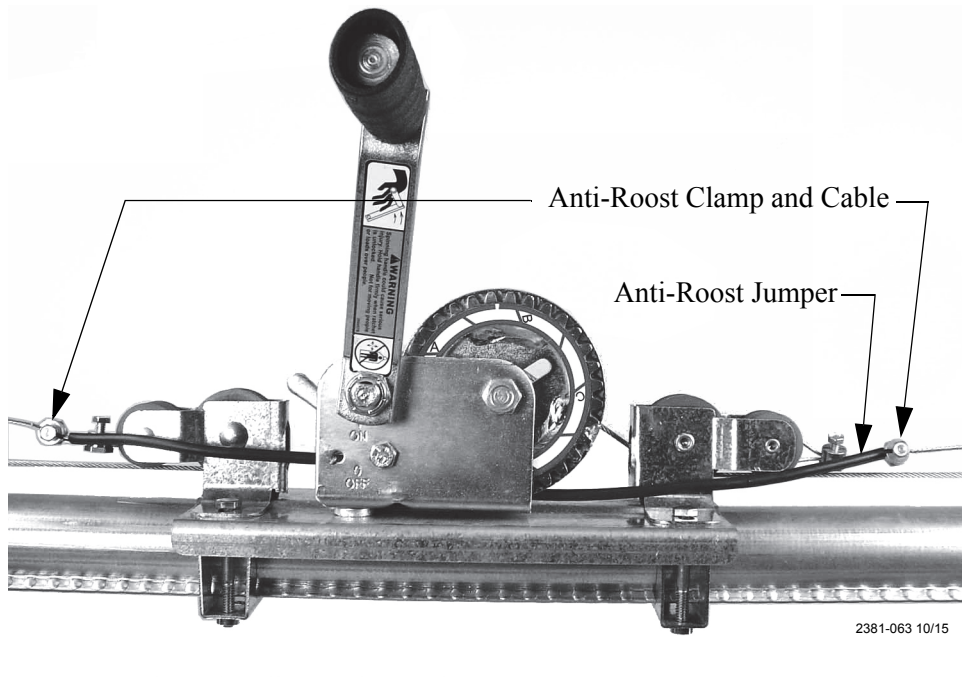

Figure 54. Anti-Roost Installation at the Actuator
1. Install a Anti-Roost Jumper at the Actuator as shown in **Figure 54**.